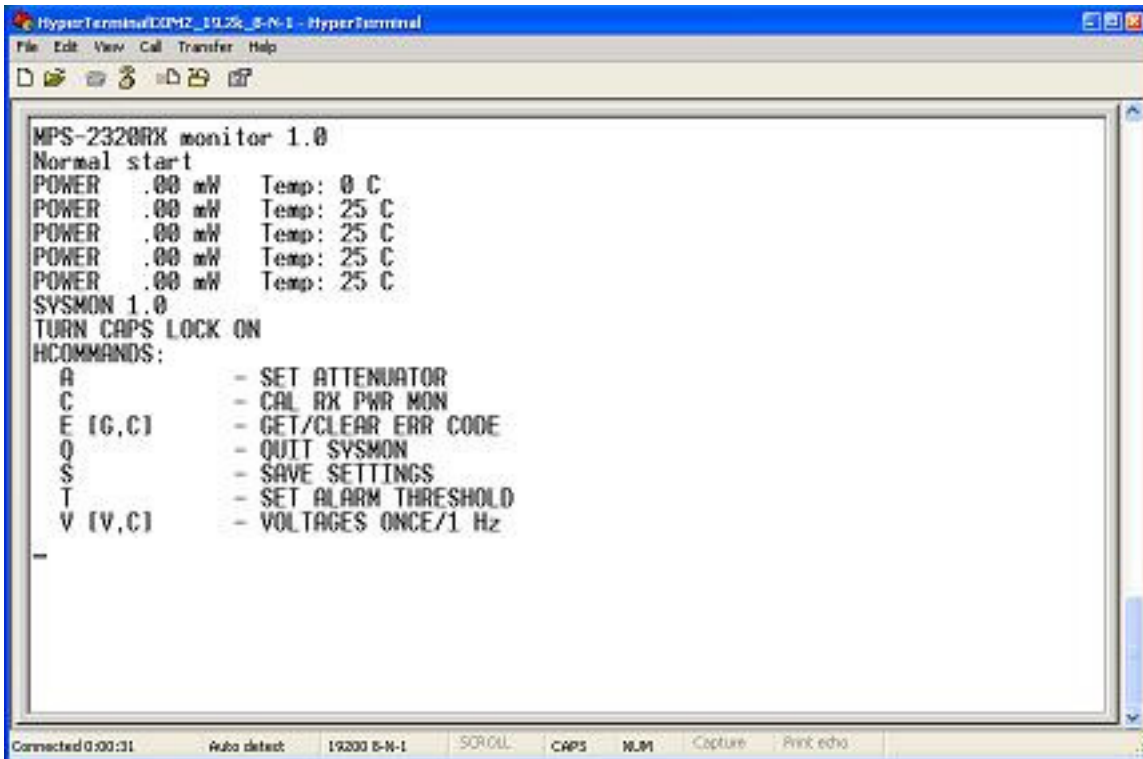

Figure 3 - RS-232 Commands
- Be sure to engage CAPS LOCK and press ‘M’ to enter the monitor mode. Press ‘H’ to view a list of available commands (see Figure 3 - RS-232 Commands).